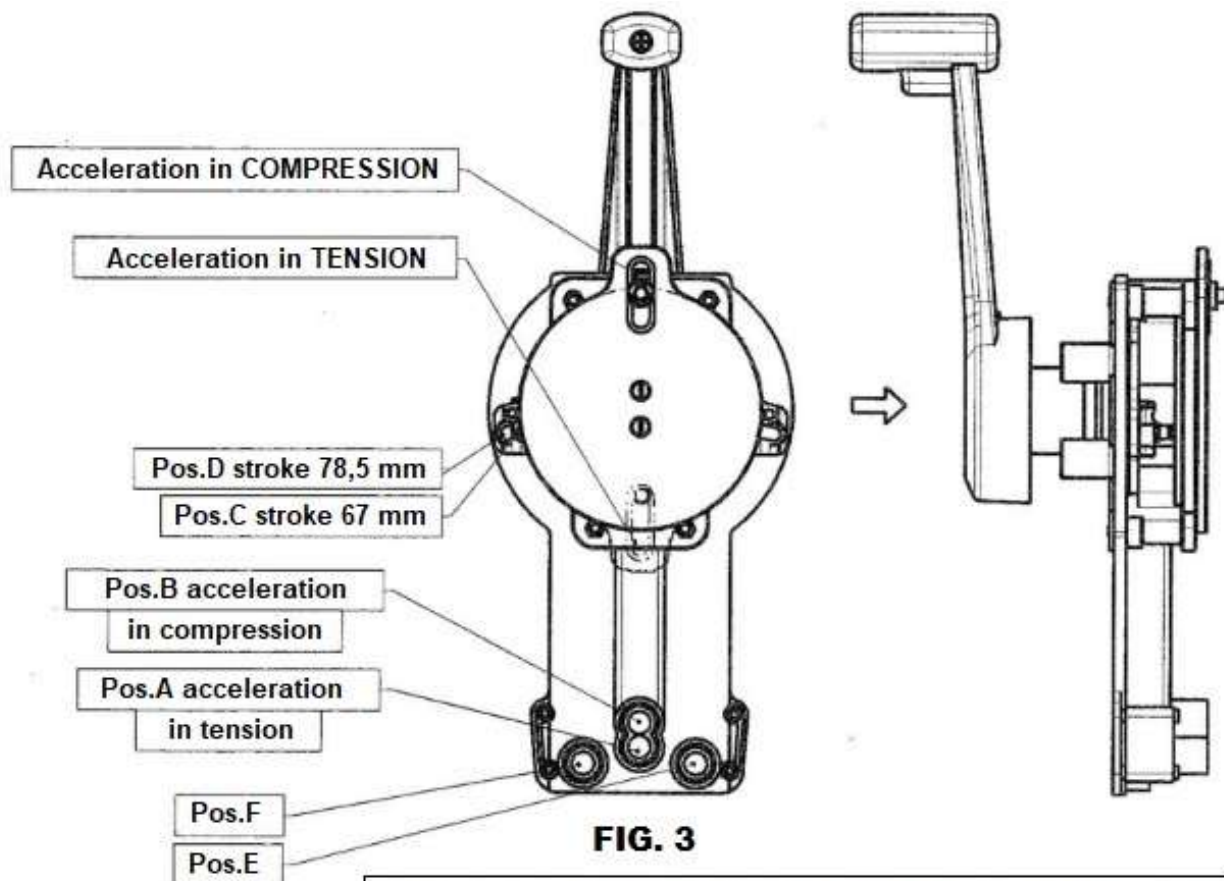

FIG. 3
1. Check in **Fig.3** that the position of the throttle control is correct for the boat's engine.
2. To reverse the throttle control direction (in tension or compression), insert the lever into the hub, exert pressure on it (**Fig.3**) to bring the mechanism into neutral position and turn it 180 ° (until the next click).
1. Insert the reversing pin **(2)** (**Fig.9**) into the eyelet of the control cable terminal and lock it with the saw **(3)** (**Fig.9**). The cable must be placed in seats E or F (**Fig.3**) according to the installation direction of the box.
2. Insert the reversing pin into the slot (**Fig.9**) and position it in position "C" (towards the inside) or "D" (towards the outside) according to the required travel (**see Fig. 3**).
2. Position the cable in housing "A" in case of acceleration in pull or in seat "B" in case of acceleration in thrust (**see Fig.3**).